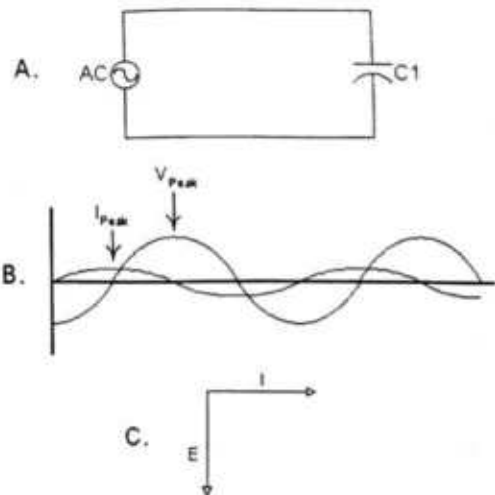

Fig. 7 Capacitive Reactance Phase Representations
Refer to Fig. 7 (A), circuit diagram; (B) waveform; and (C) vector diagram. In Fig. 7B, the peak voltage is represented by V , and not E. In Fig. 7C, the phasor pointing straight down is voltage (E) which is 90 degrees out of phase with the current (I), with its phasor pointing to the right.